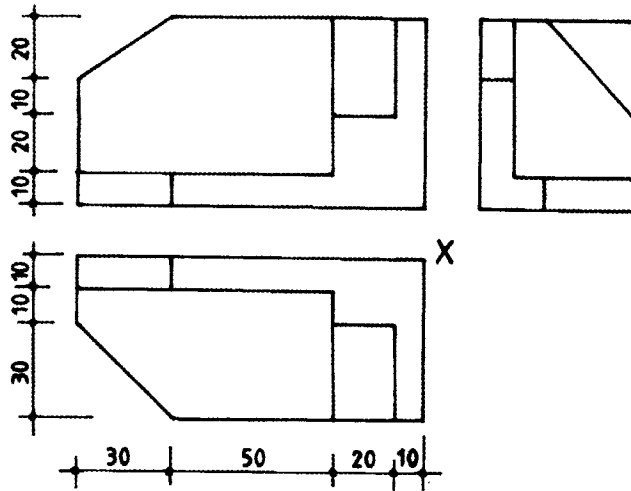

Figure 5
- 11** Figure 5 shows three views of a block drawn in first angle orthographic projection.